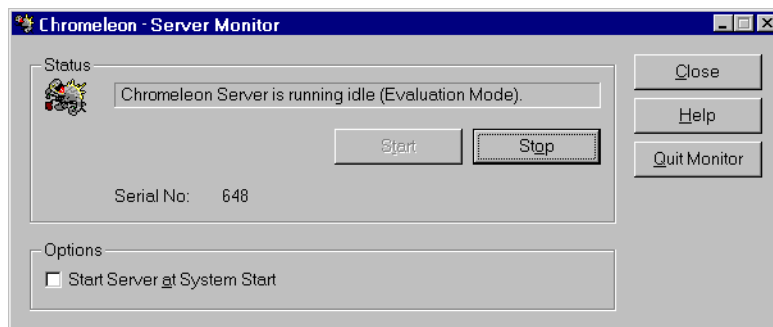

Figure B-2. Server Evaluation Mode
- If Chromeleon or Chromeleon Xpress was not pre-installed, the Server Monitor status displays “Chromeleon Server is running idle (Evaluation Mode).” (see Figure B-2). If this is the case, go on to Step 3.